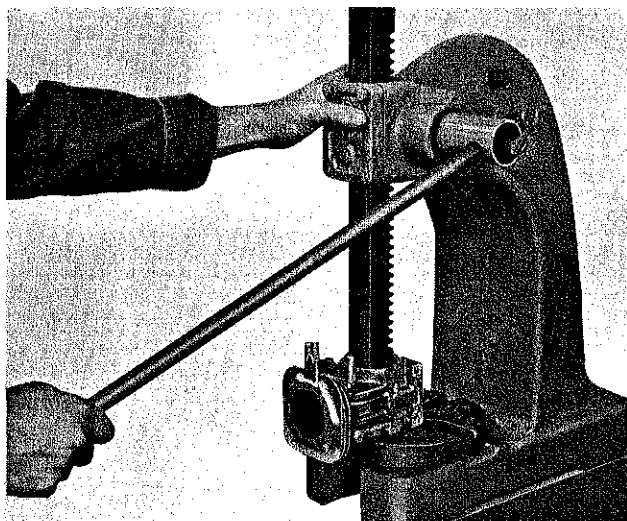

Figure X-8. Using an arbor press and a bearing driver to remove the crankcase needle bearing and oil seal.
6. Press the needle roller bearing and the oil seal out of the crankcase from the inside, using a bearing driver. (Figure X-8)